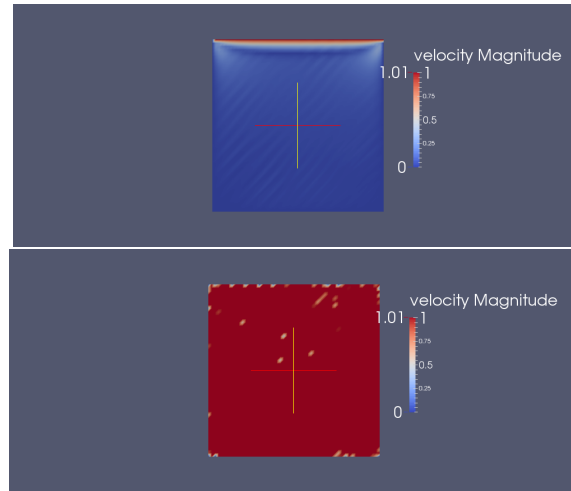

Figure 2: Simulation with $\omega = 2$. Left picture is one of the starting frames, and the right one shows trouble in later ones.
- at $\omega = 2$ we again lose convergence (in every step of updating pressure matrix we subtract the previous value at the same point...why exactly is this so bad?). The beginning frames seem correct, but nearing to the end time value we go away from the right end time point solution. See figures 2.